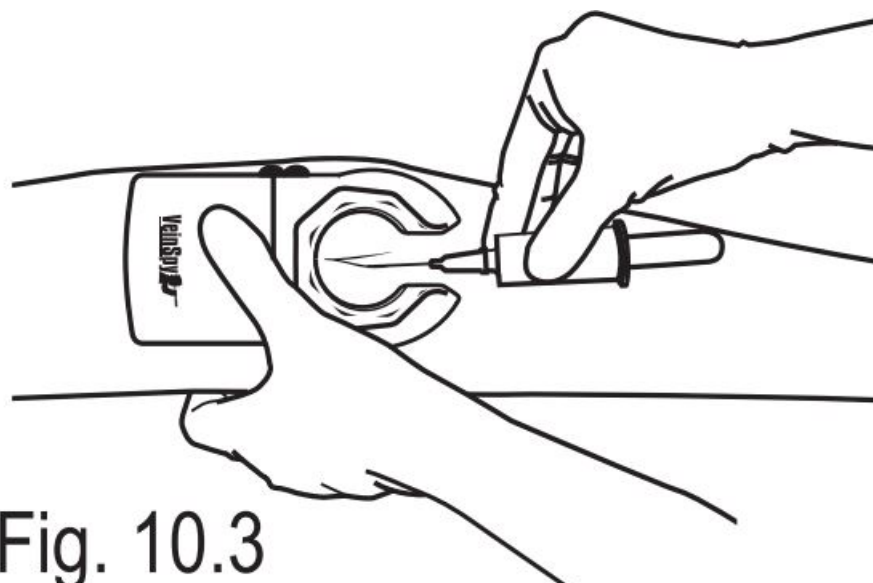

Fig. 10.3
- Press the device at the selected site of needle insertion to hold the vein and insert the needle into the vein using the normal technique of needle insertion to draw the blood or for the IV therapy. (See Fig. 10.3) Note : VeinSpy™ effectivity is enhanced when ambient light is minimum.